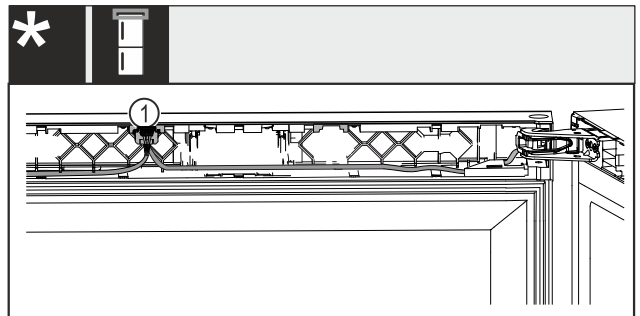

Fig. 64 Wine-freezer combinations*
- ▶ Snap the plug Fig. 64 (1) into the guide.*